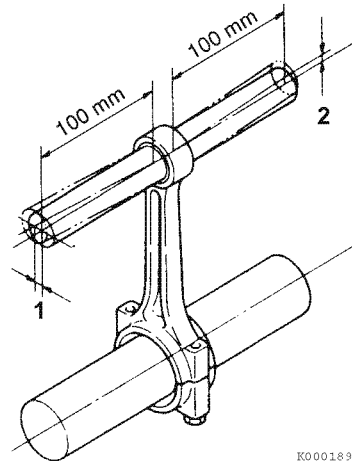

Figure 6-58
5. Check for twist (1, **Figure 6-58**) and bend (2, **Figure 6-58**). See *Connecting rod* on page 6-12 for the service limit. Record all measurements.